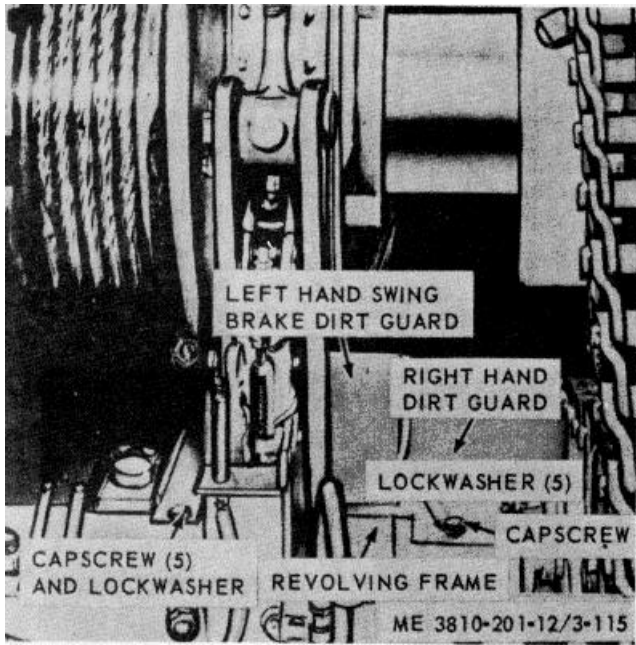

Figure 3-115. Swing brake dirt guard, removal and installation.
a. Swing Brake Dirt Guard Removal and Installation. Refer to figure 3-115 and remove swing brake dirt guard. Install in reverse order.